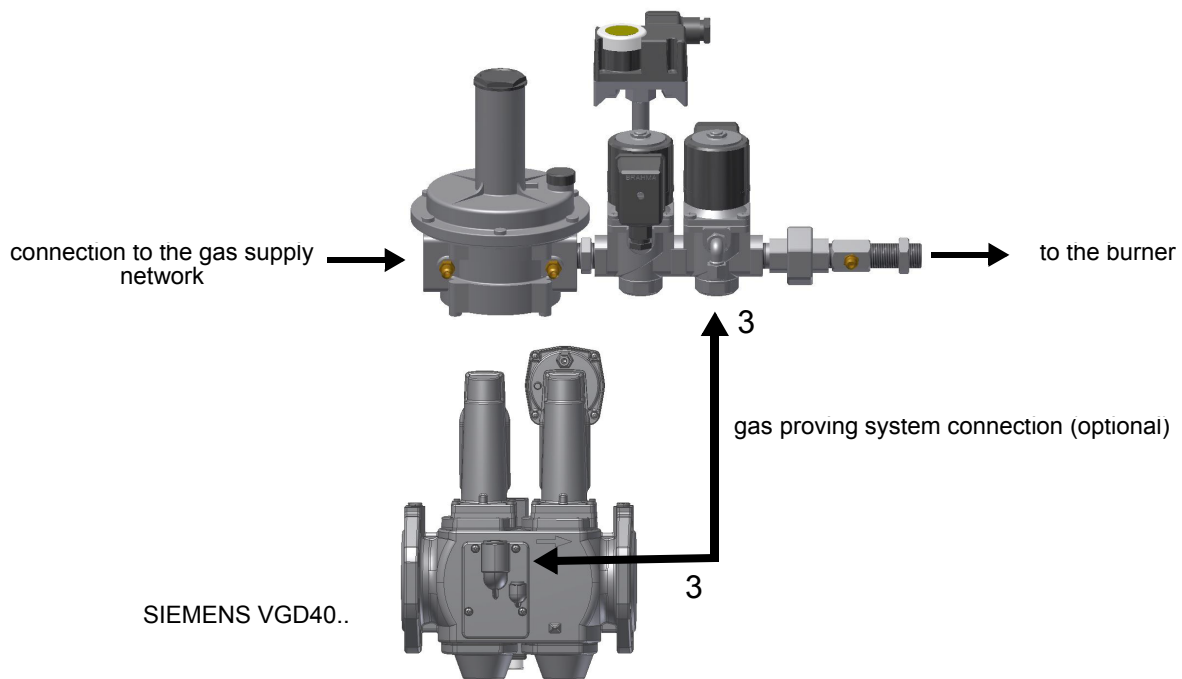

Fig. 1 - pipe port (3) for connecting the pilot gas train to the valves group of the main gas train
**ATTENTION:** once the gas train is mounted according to the diagram on Fig. 1, the gas proving test must be performed, according to the procedure set by the laws in force.
**Caution:** the SKP2 diaphragm **D** must be vertical (see Fig. 1).